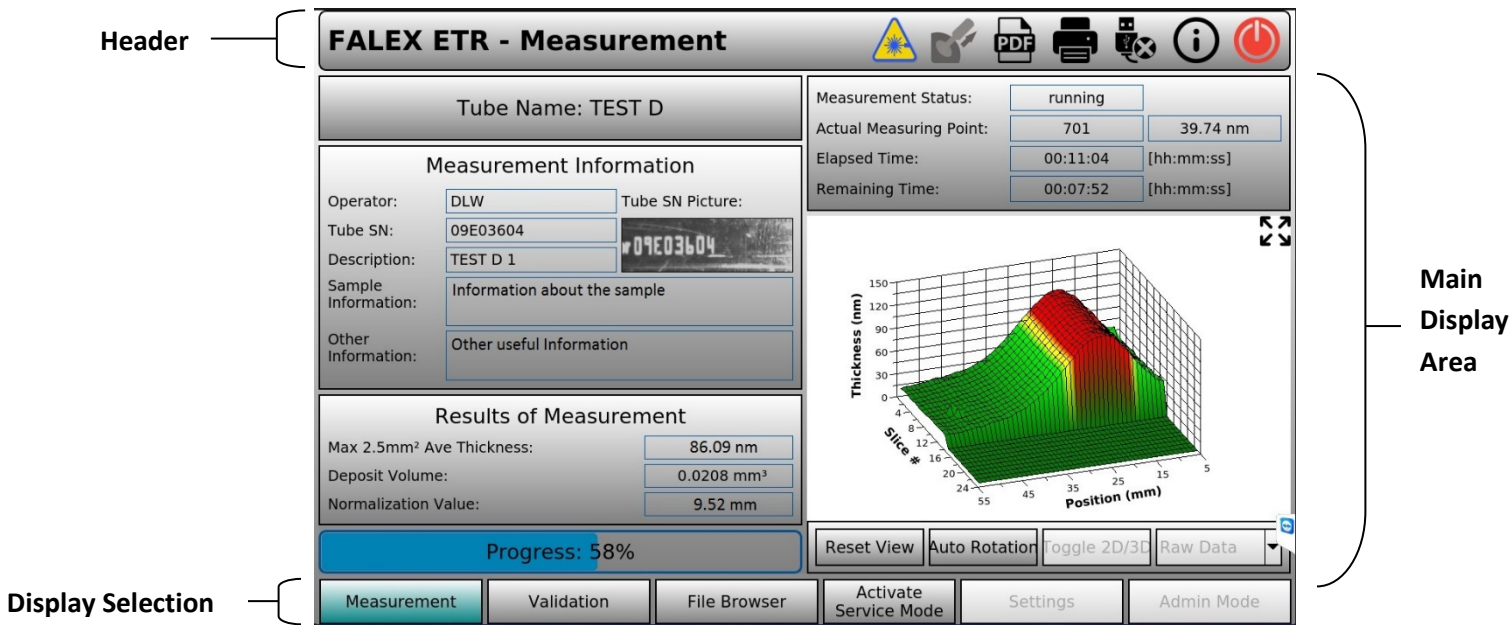

Figure 3-1 - Display Component Areas
The displays are made up of three (3) areas (figure 3-1), with each area having special functionality. The various display areas are: